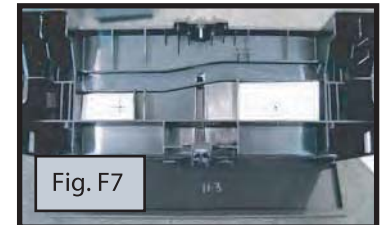

Fig. F7
- ii. Remove cupholder assembly and orient as shown. (Fig. F7)
- ii. Align template as shown using edge of casting for alignment. (Fig. F7)